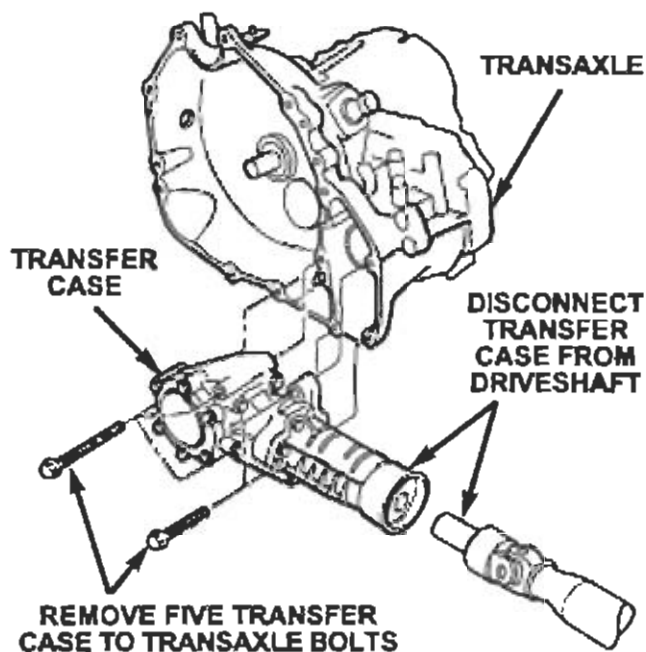

Figure 3
10. Remove the five bolts that secure the transfer case to the transaxle (Figure 3).